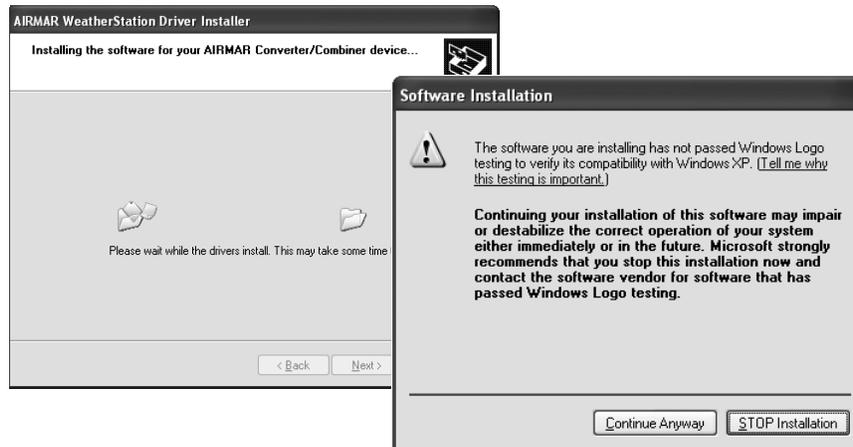

Figure 9. Please Wait and Software Installation caution windows
- The Please Wait window followed by the Software Installation caution window will appear (see Figure 9). The drivers are not Microsoft Windows® certified. However, they have been tested for stable and reliable operation. Click Continue Anyway to proceed with the installation.
- The Please Wait and the Software Installation caution windows will appear again (see Figure 9). Click Continue Anyway to proceed with the installation.